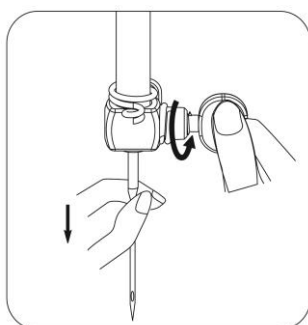

Fig.1
1. Turn the hand wheel to raise the needle to its highest position. Hold the old needle and loosen the needle clamp screw. Remove the old needle and discard it properly. (Fig.1)